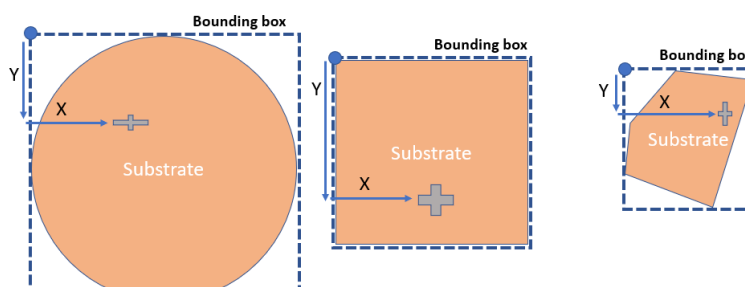

Figure 3-47 Position of an object on the substrate
1. Make sure you know the position on the substrate where you want to add features. The position values are with reference to the top left corner of the substrate bounding box, see in **Figure 3-47** below.